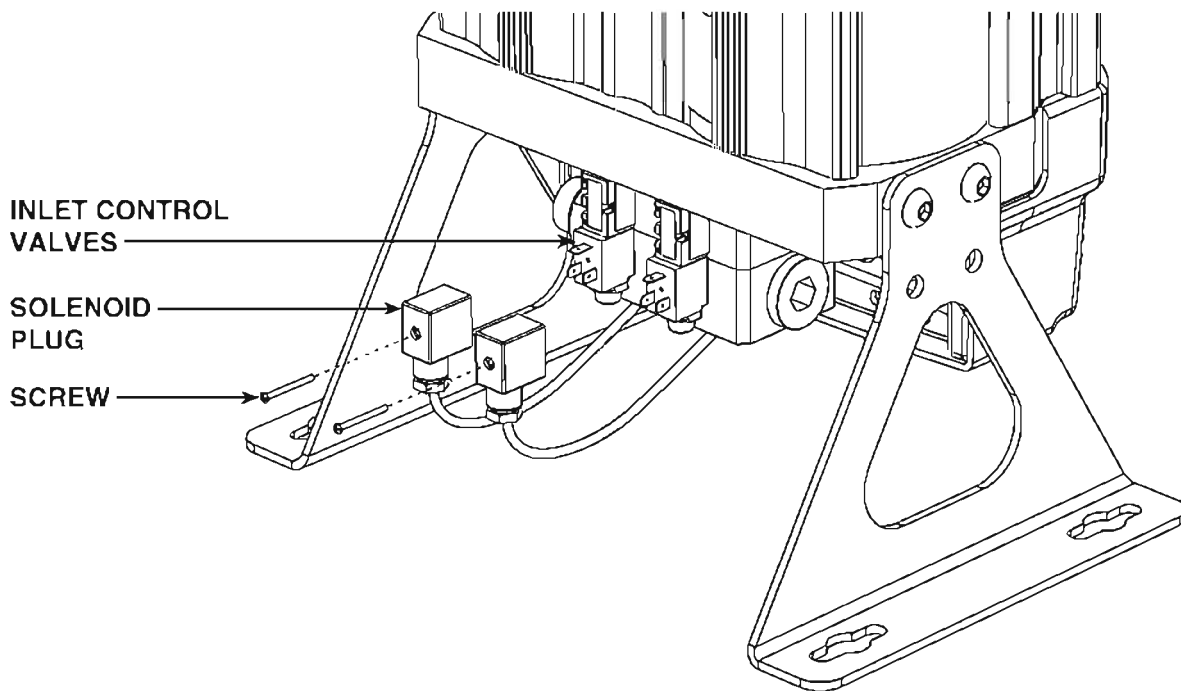

Figure 1.
2. Remove the screws and release the solenoid plugs from the inlet control valves. (See Figure 1)